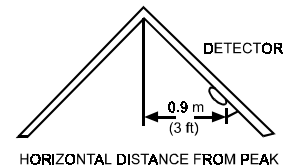

Figure 14. Recommended Location to Mount Smoke Detectors in Rooms with Sloped, Gabled or Peaked Ceiling
- If some of your rooms have sloped, peaked, or gabled ceilings, try to mount detectors 0.9 meter (3 feet) measured horizontally from the highest point of the ceiling as shown in Figure 14.